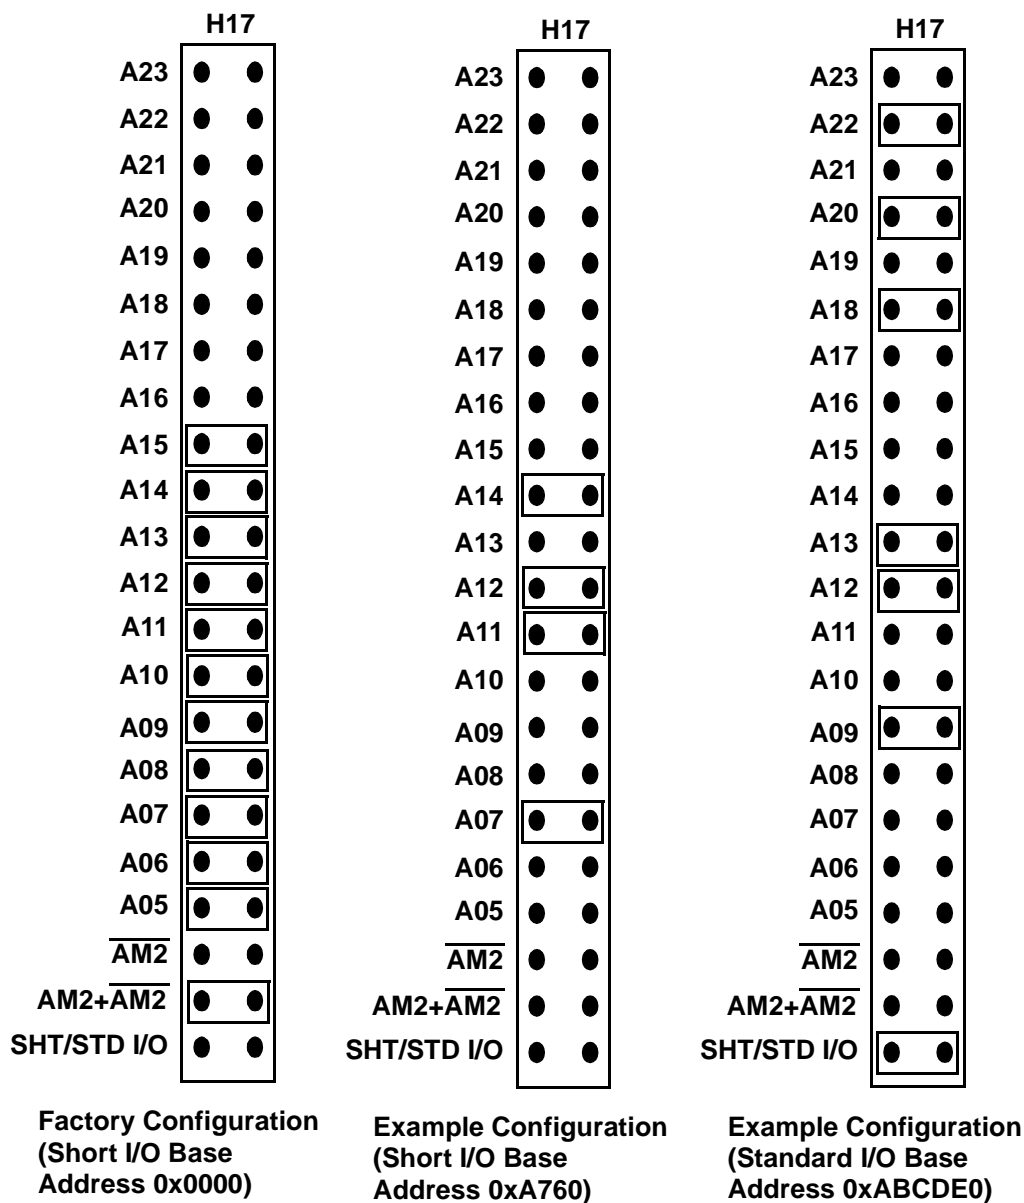

Figure 2-11 Base Address Select Jumpers
- To change the address jumpers, refer to Figure 2-11 on page 31.
The VMIVME-1128 is designed with a bank of address select jumpers that specify the beginning board address for data transfers. An installed jumper equals zero; a removed jumper equals one. The address selection jumpers are shown in Figure 2-11 below. The VMIVME-1128 is factory configured to respond to 0000 HEX.